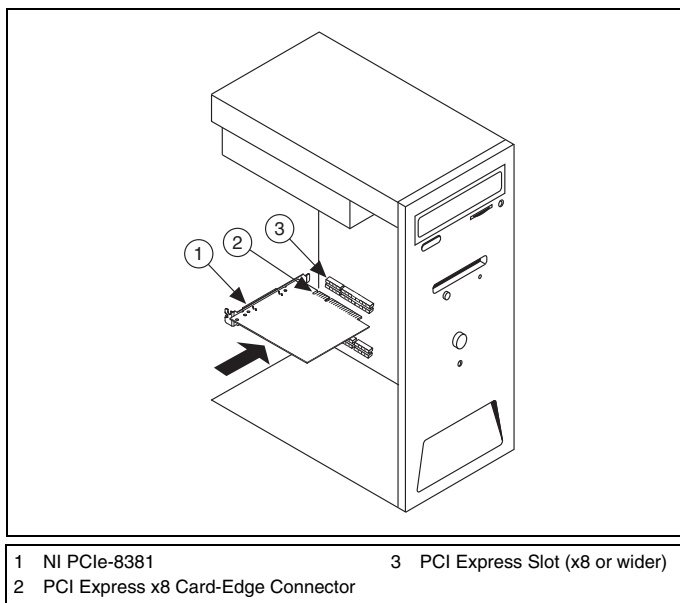

Figure 2-1. Installing the NI PCIe-8381
7. Line up the NI PCIe-8381 with the slot on the back panel. Slowly lower the NI PCIe-8381 until its card-edge connector is resting on the expansion slot receptacle. Using slow, evenly distributed pressure, press the NI PCIe-8381 straight down until it seats in the expansion slot, as shown in Figure 2-1.